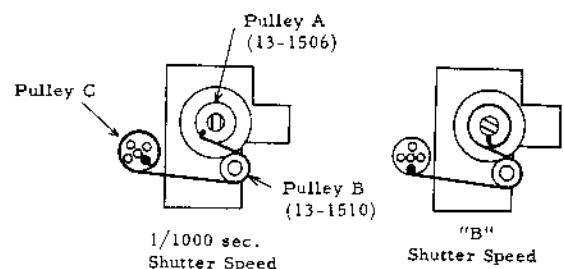

Fig. 6
- Turn the shutter speed dial between 1/1000 and "B" and check the indicator. (See figure 6.)